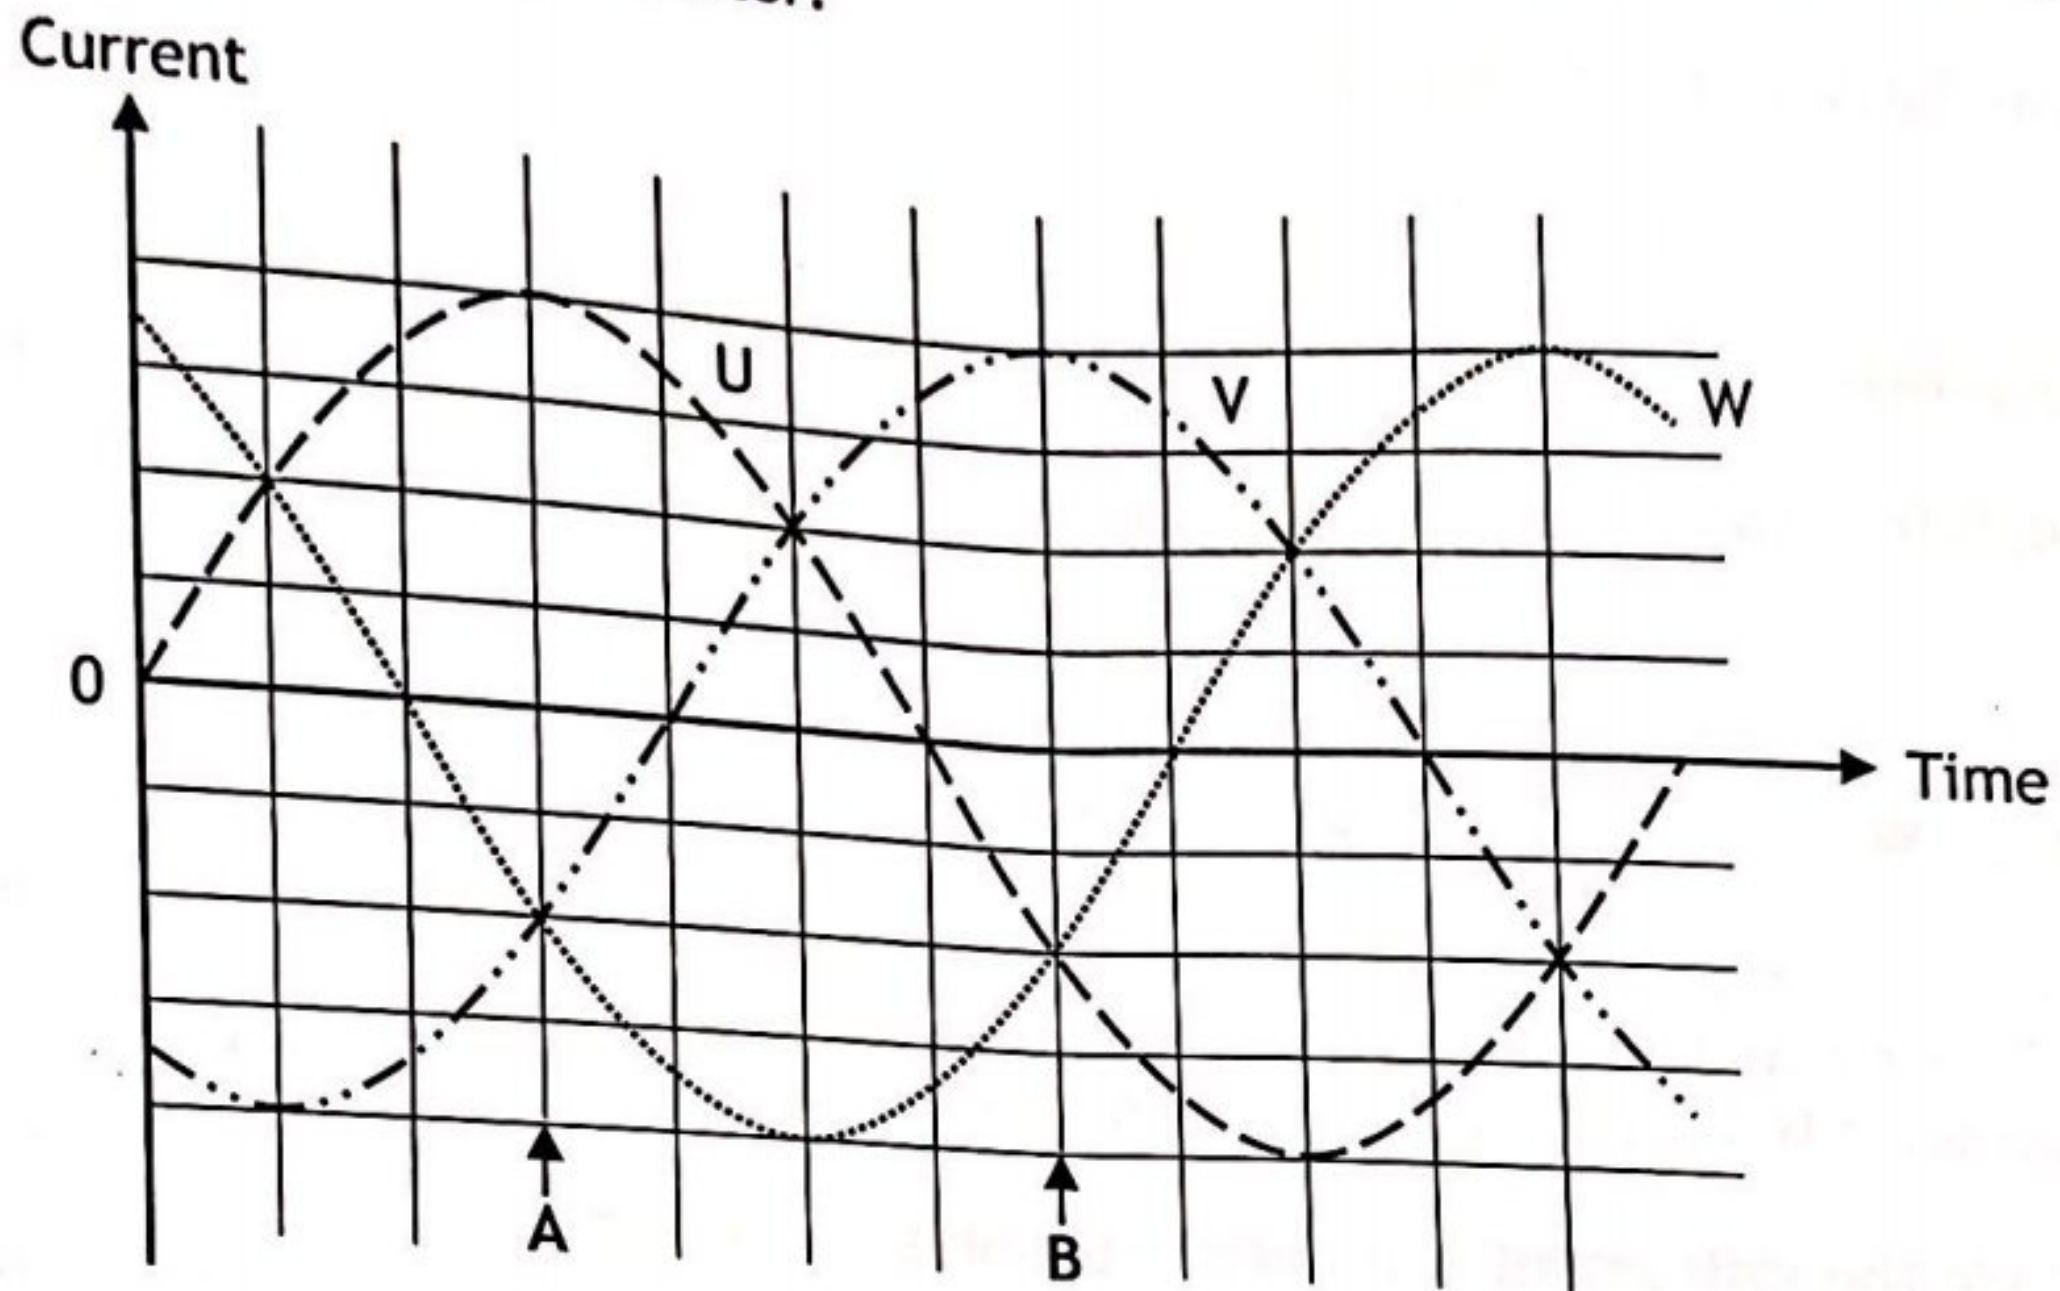

Fig Q4
4. Fig Q4 shows the supply current waveform for a three-phase, 60 Hz induction motor.
- (a) Using Worksheet Q4 indicate EACH of the following for instants A and B: (3)
- (i) the direction of the currents in the coils; (2)
- (ii) the position of the stator magnetic field. (6)
- (b) Explain, with the aid of a labelled sketch, how torque is produced when a cage rotor is located inside the stator. (6)